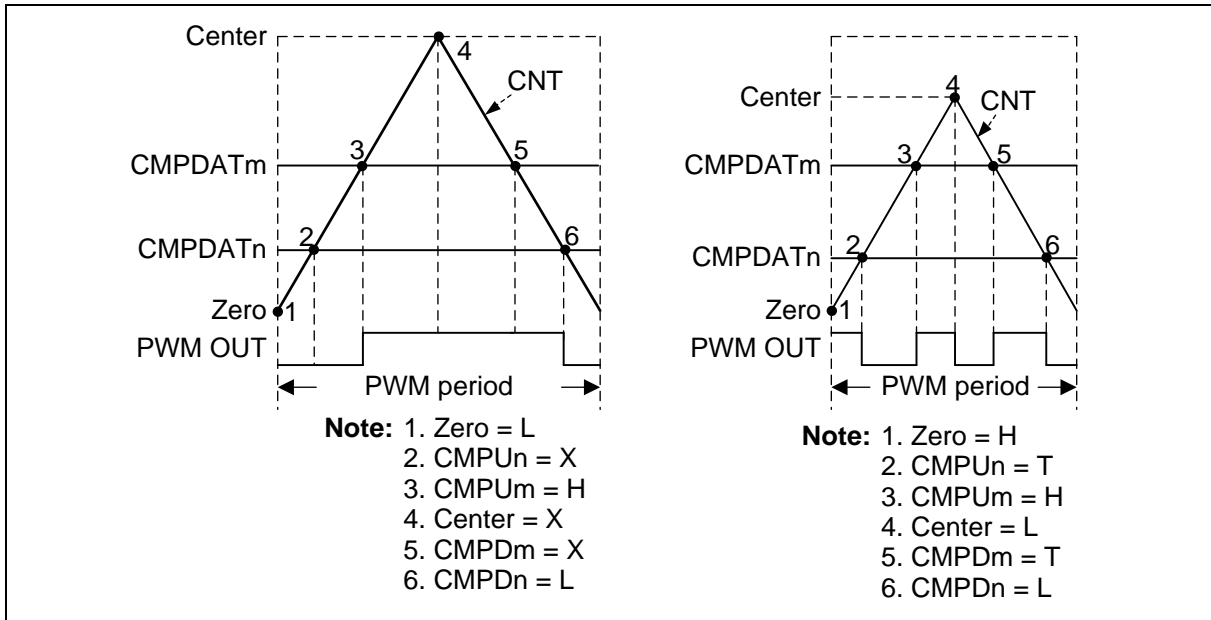

Figure 6.10-16 PWM Pulse Generation
Each event point can decide PWM waveform to do nothing (X), set Low (L), set High (H) or toggle (T) by setting the PWM_WGCTL0 and PWM_WGCTL1 registers. Using these points can easily generate asymmetric PWM pulse or variant waveform as shown in Figure 6.10-16. In the figure, PWM is in complementary mode, there are two comparators n and m to generate PWM pulse. n denotes even channel number 0, 2, or 4, and m denotes odd channel number 1, 3, or 5. n channel and m channel are complementary paired. Complementary mode uses two channels (CH0 and CH1, CH2 and CH3, or CH4 and CH5) as a pair of PWM outputs to generate complement paired waveforms. CMPU denotes CNT(PWM_CNTn[15:0]) is equal to CMP(PWM_CMPDATn[15:0]) when counting up. CMPD denotes CNT bits is equal to CMP bits when counting down.